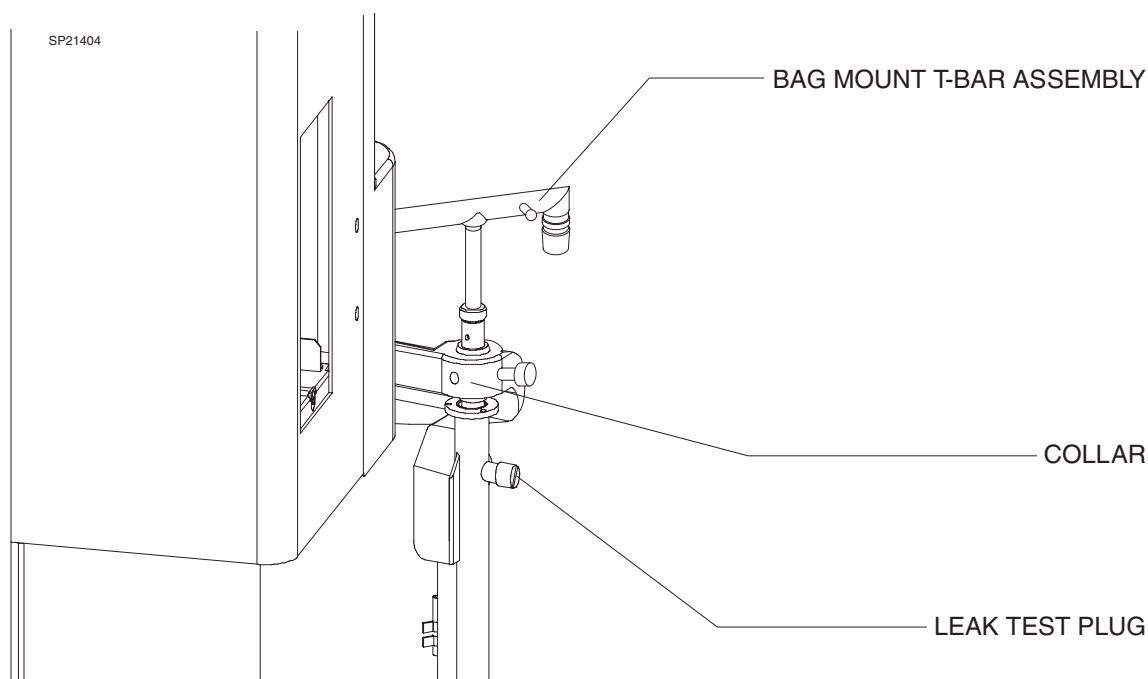

FIGURE 4. Divan Leak Test Plug
- 4.1 Remove the existing leak test plug. Obtain a Returned Materials Authorization (RMA) for the original plug, P/N 4114550, and ship it within 24 hours (overnite delivery) to DMI Telford via Federal Express. Line #2 of the Air Bill shall indicate Code "B-1." Insert and secure a $\frac{1}{4}$ -28 x $\frac{1}{2}$ in. button head screw P/N HW09079 in this location using red Loctite #271. See Figure 4.